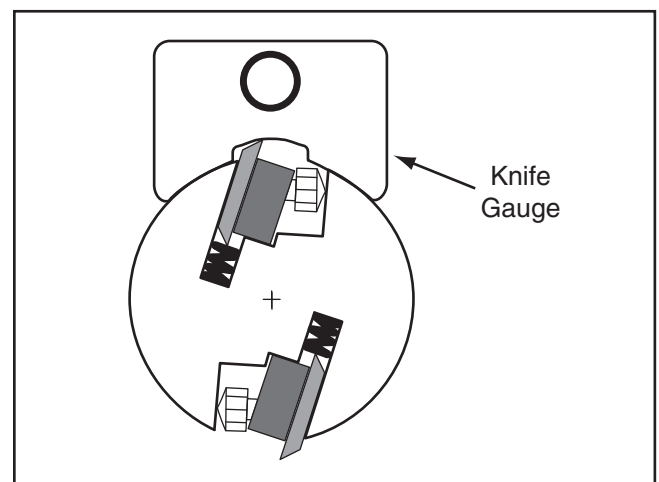

Figure 29. Side view of cutterhead and knife gauge.
4. Make sure the springs are properly seated, then replace the gib with the bolts oriented as shown in **Figure 29**.
- Place the knife gauge over the knife, as shown in **Figures 29–30**.
- Check the knife height again with the gauge. The knife tip should be just touching the arc of the gauge, as shown in **Figure 29** on the previous page.